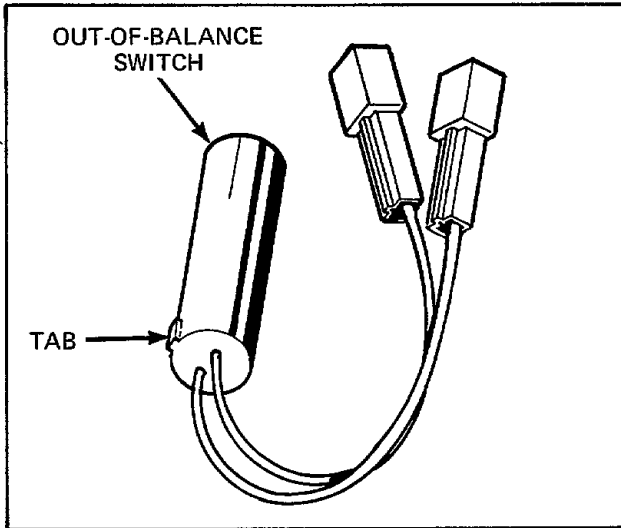

Figure 65
**63. OUT-OF-BALANCE SWITCH – Through Serial Number 592J8 (Refer to Figure 65)**